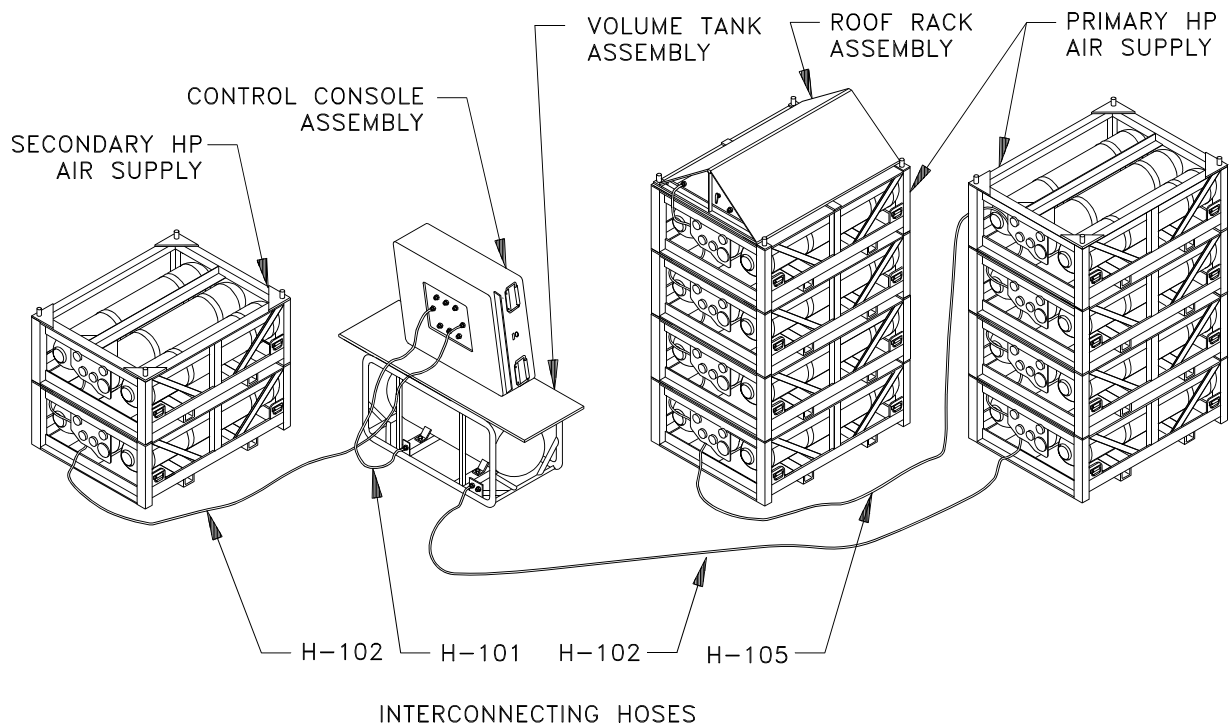

Figure 1-5. Multiple Stacks of Flask Racks, Configuration 3
1.3.3 CONFIGURATION 3. Configuration 3 (Figure 1-4) is used for dive missions limited to a maximum dive depth of 190 fsw. The primary HP air supply consists of a minimum of three vertically stacked flask rack assemblies, each containing three HP composite flasks. A maximum of four flask rack assemblies may be placed in one stack. If more than four flask rack assemblies are required for the dive mission, a second stack of flask rack assemblies may be added (Figure 1-5). The stacks are interconnected and the roof rack assembly is placed on the last stack of flask rack assemblies. The flask rack assemblies within each stack are interconnected and cascaded, which enables a single pressure reading to be taken from the roof rack assembly. The roof rack assembly enables the flasks to be charged before, during, or after a mission. The HP air flows to the volume tank assembly where it is reduced to LP air through an HP regulator. The LP air is then stored in the volume tank assembly where it is filtered before passing to the control console assembly.
1.4.2 PRIMARY HP AIR SUPPLY. The primary HP air supply consists of a minimum of three vertically stacked flask rack assemblies, each containing three interconnected composite flasks. Each flask contains 191 standard cubic feet (scf) of air at 3,000 psig. The flask rack assemblies are interconnected and cascaded, which enables a single pressure reading to be taken from the roof rack assembly and also enables the flasks to be charged before, during, or after a mission. Additional flask rack assemblies may be added as required, but each stack of flask rack assemblies shall not exceed four high. If multiple stacks are used, the stacks are interconnected by hose assemblies and the roof rack assembly is placed on the last stack (Figure 1-5).